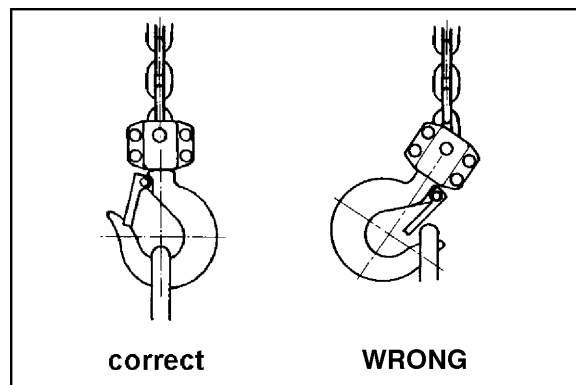

Figure 2
3. Place ropes or chain in the center of the bottom hook, making sure the safety latch is secure. Never load the hook in front of the safety latch. See Figure 2.